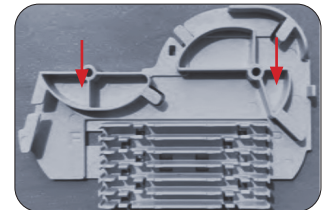

Figure 11
11. Prepare to load splice protectors. Locate "P" and "F" marking on spool. When loading splice protectors, ensure pigtail is exiting spool through the side with "P" marking and the feeder is exiting through the side with "F" marking. **(Figure 11)**